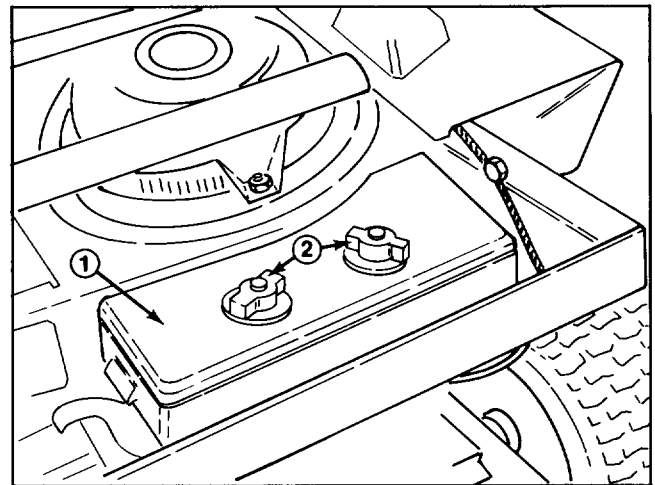

Figure 9
2. Remove (2) wing nuts securing air cleaner cover to air cleaner body (Fig. 9).
3. Lift off air cleaner cover and clean thoroughly (Fig. 9).